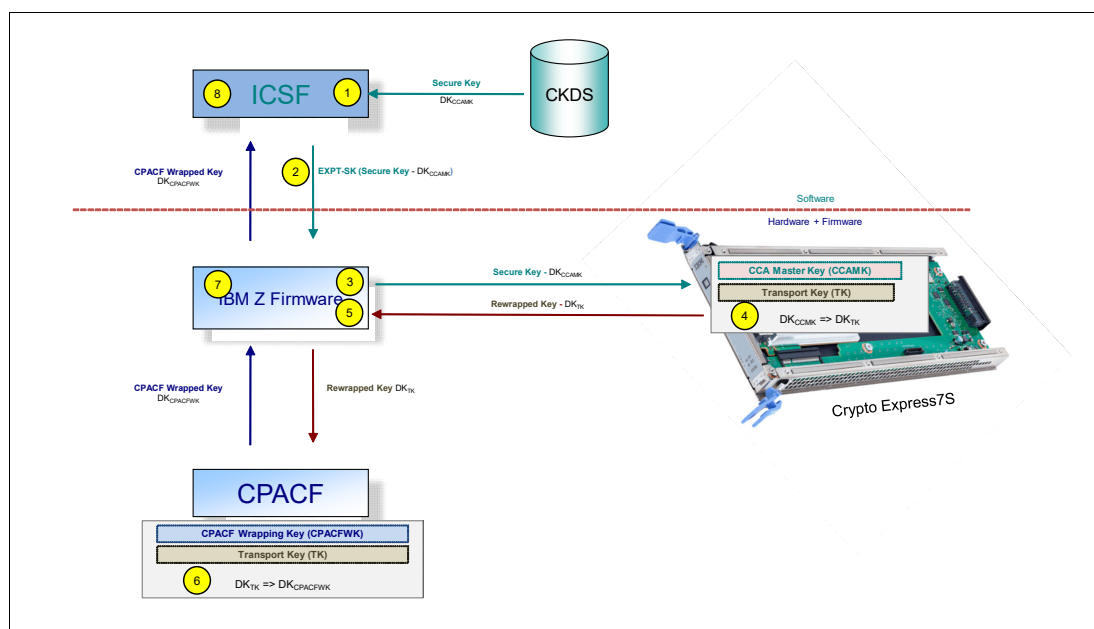

Figure 6-5 CPACF key wrapping for Crypto Express7S and Crypto Express6S
Wrapping keys are generated during the clear reset each time an LPAR is activated or reset. No customizable option is available at Support Element (SE) or Hardware Management Console (HMC) that permits or avoids the wrapping key generation. This function flow for the Crypto Express7S and Crypto Express6S adapters is shown in Figure 6-5.
A new segment in the profiles of the CSFKEYS class in IBM RACF restricts which secure keys can be used as protected keys. By default, all secure keys are considered not eligible to be used as protected keys. The process that is shown in Figure 6-5 on page 218 considers a secure key as the source of a protected key.